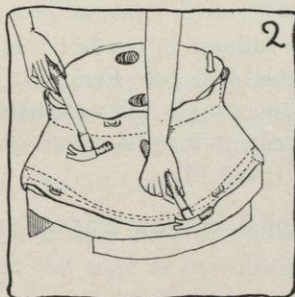

FIG. 2.
- c. Put a staple or two in the headsize and in the groove at the edge of the block (see Figure 2).